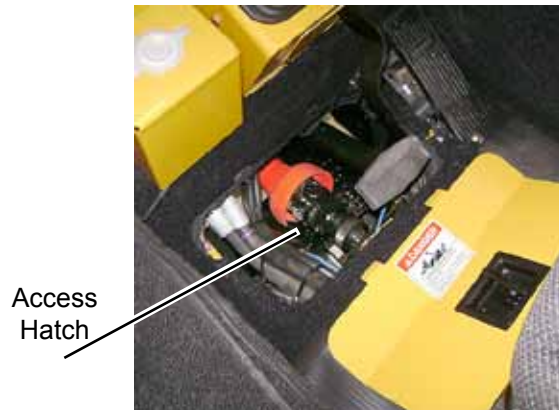

Figure 10
- 11. Unlock and remove the hatch in the MSV cab floor to provide access to the PTO connection (Figure 10).
13. Install and lock the access hatch (Figure 10). The front of the MSV has several connections for hydraulic hoses. The operator controls in the MSV cab will be setup to use the auxiliary hydraulic connections. Refer to the MSV Operator's Manual for the quick disconnect fittings specifications.